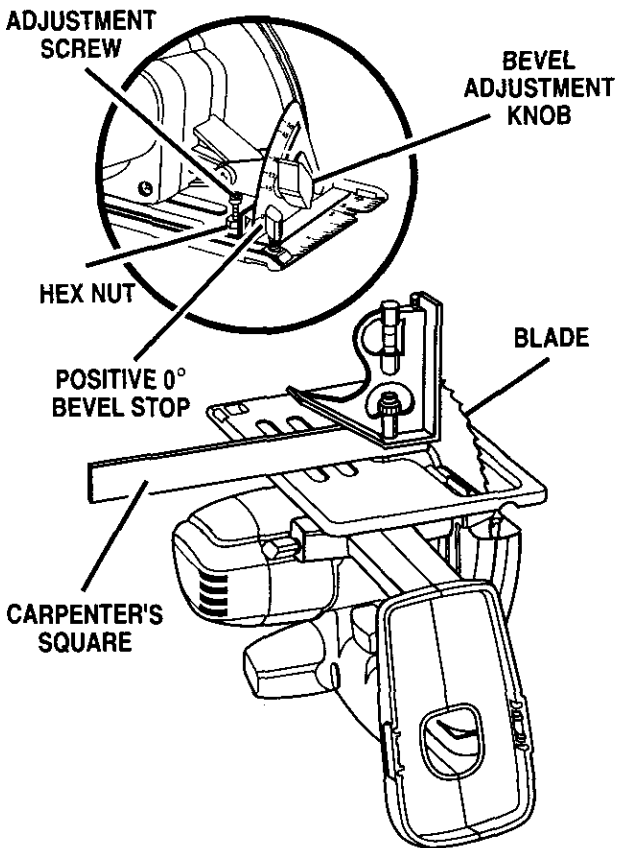

Fig. 25
See Figure 25.
- Place your saw in an upside down position on workbench. See Figure 25.